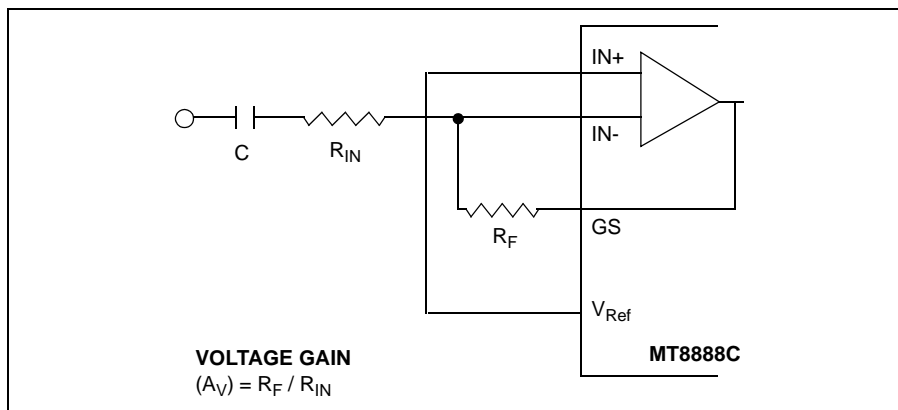
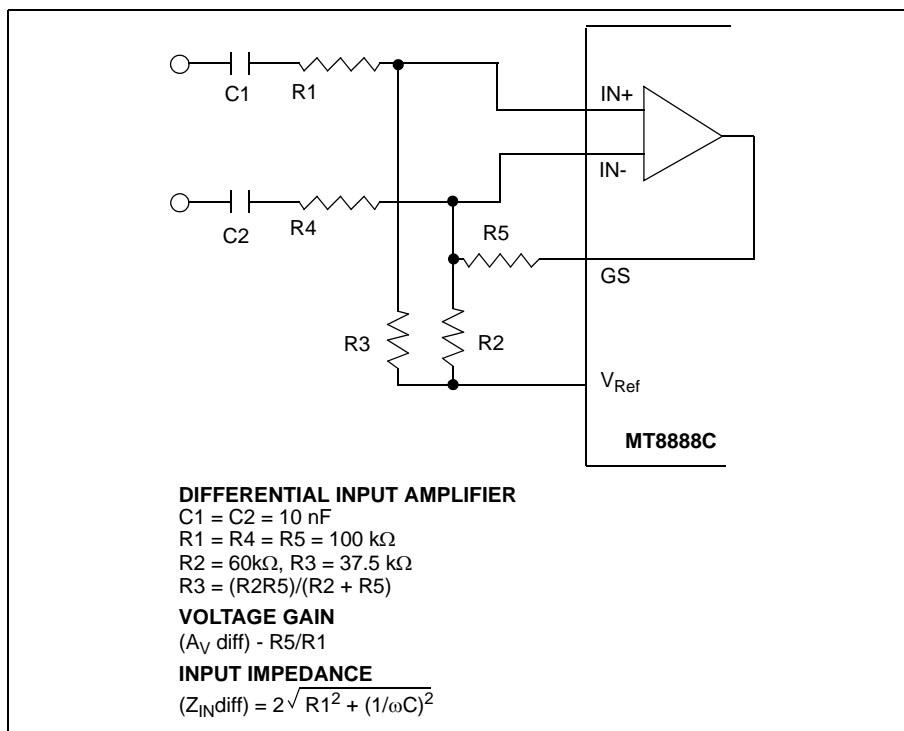

Figure 3 - Single-Ended Input Configuration
Figure 4 - Differential Input Configuration
The input arrangement of the MT8888C provides a differential-input operational amplifier as well as a bias source ( $V_{Ref}$ ), which is used to bias the inputs at  $V_{DD}/2$ . Provision is made for connection of a feedback resistor to the op-amp output (GS) for gain adjustment. In a single-ended configuration, the input pins are connected as shown in Figure 3. Figure 4 shows the necessary connections for a differential input configuration.